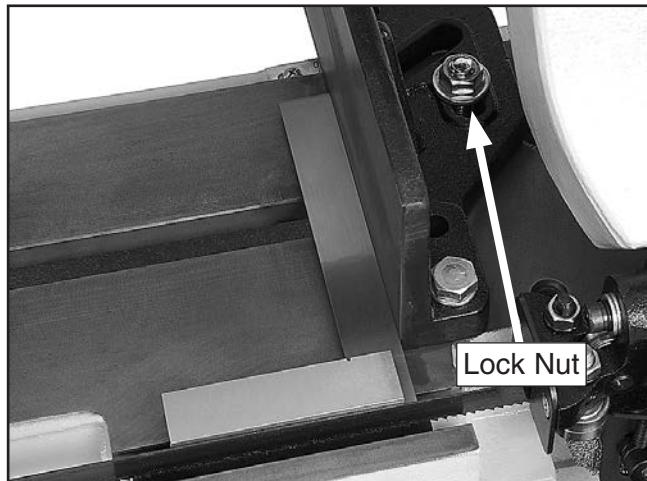

Figure 27. Location of lock nut.
1. Loosen lock nut shown in **Figure 27** with $\frac{3}{4}$ " wrench or socket.